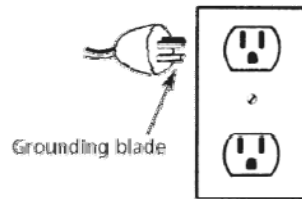

Figure 1 - Grounding
17. This equipment is only for use on 115 volt (single phase) and is equipped with an approved 3-conductor cord and 3-prong, grounding-type plug (See Figure 1). To reduce the risk of electric shock, the motor must be securely
and adequately grounded. This can be accomplished by either: 1) Inserting plug directly into a properly installed and grounded 3-prong grounding-type receptacle (See Figure 1); 2) Permanently wiring the unit with a grounded, metal raceway system; 3) Using a separate ground wire connected to the bar metal of the frame; or 4) Other suitable means.